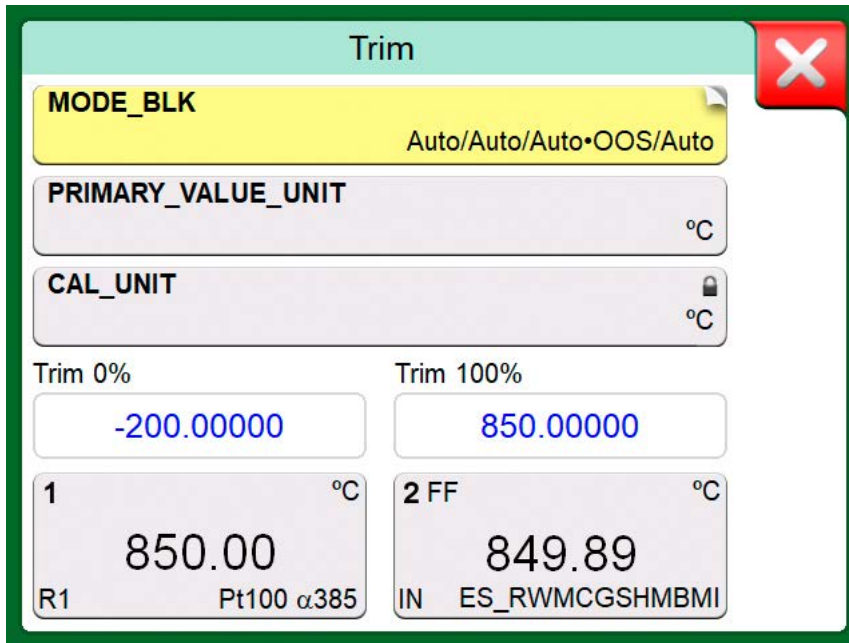

Figure 126: Fieldbus instrument's trimming window, example
Menu option **Start Trimming** opens a window similar to the Figure 126: Fieldbus instrument's trimming window, example. The list of Blocks and Parameters depends on instrument's Device Description. The lower part of the window has areas where the instrument's input (1) and output (2) readings are shown.